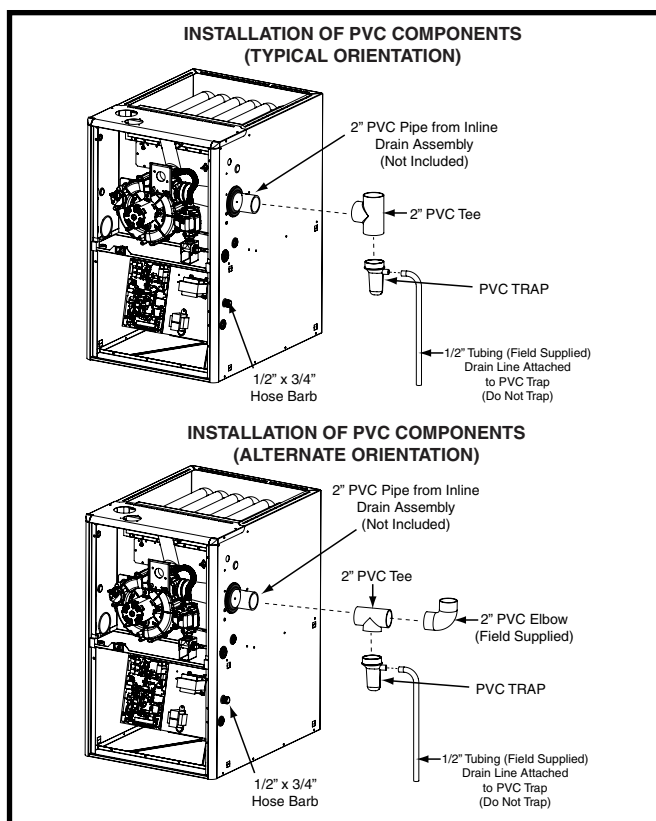

Figure 15. PVC Components
- The 2" PVC components shown in Figure 15 are not provided in the extra parts bag. However the PVC Trap (P/N 664659) can be purchased thru your local distributor.
The 2" PVC tee, reducer, PVC Trap and 1/2" X 1/2" hose barb are used when the inducer is rotated to vent out thru the left or right side of the furnace cabinet. See Figure 15.
them together using appropriate primer and cement. Refer to the typical orientation shown in Figure 15.
them together using appropriate primer and cement. Refer to the alternate orientation shown in Figure 15.